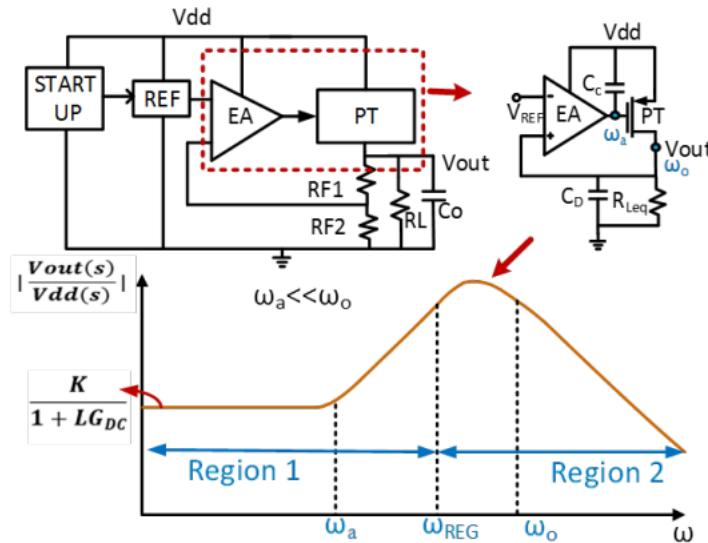

Figure 12: : Block diagram of a low drop-out (LDO) regulator and its associated PSRR curve (linear scale)
LDOs are essential components in the power supply of most ICs. They provide a ripple-free, stable fixed output voltage; isolating it from the input noise. An LDO has several important performance specifications and the power supply rejection ratio (PSRR) is one of them. PSRR is a quantitative measure of the attenuation of input ripples by the LDO at its output. These ripples can originate from various parts of the circuit, like DC/DC converters or shared power supplies of other circuit blocks. PSRR is expressed as  $\text{PSRR} = 20\log(v_{\text{out}}/v_{\text{in}})$ , where  $v_{\text{out}}$  and  $v_{\text{in}}$  refer to magnitudes of input and output ripples. In Figure 12, the PSRR of LDO is divided into two distinct regions (region 1 and region 2). Region 1 covers the low and mid frequency range till the regulator bandwidth frequency ( $\omega_{\text{REG}}$ ), where PSRR primarily depends on the loop gain (LG) of the regulator. Region 2 starts after  $\omega_{\text{REG}}$ , where PSRR is independent of LG and is dominated by output parasitics, PCB impedance, etc.